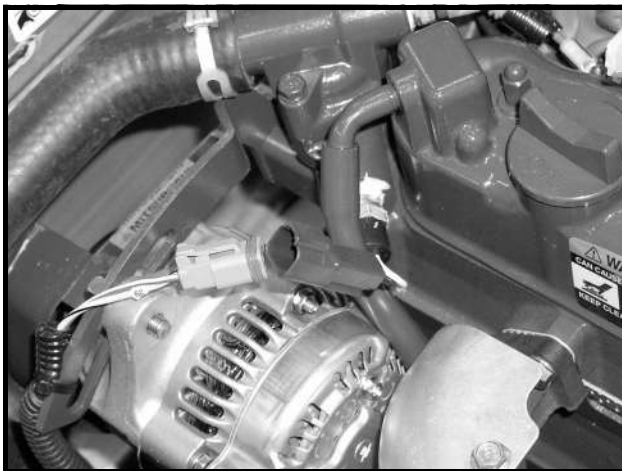

Figure 11b-31 Thermostat Switch Connector
2. Disconnect the two-pin connector from the thermostat switch (**Figure 11b-20, Page 11b-23**).